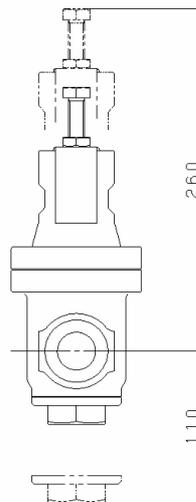

Fig.1
- (11) Install the valve perpendicularly to horizontal lines.
- (12) Provide the by-pass line. (See 6.1 Example of piping)
- (13) Set pressure of safety relief valve should be higher than the pressure reducing valve's pressure.
- (14) When the reducing ratio is large, install a reducer to keep the flow velocity in the pipe 30 m/s.
- (15) Provide space on the top and bottom of the valve so that the valve can be easily disassembled and inspected. (See Fig.1)